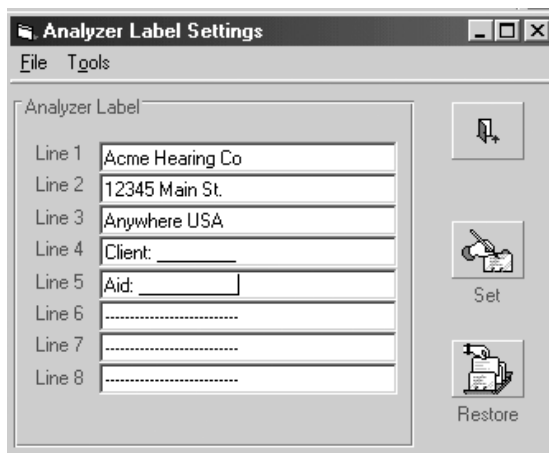

Figure 7.2.7—Analyzer Label Settings window
2. Open the **Tools** menu, point at **Analyzer Tools**, and select **Set Analyzer Label**. This will open the Analyzer Label Setting window. See Figure 7.2.7.